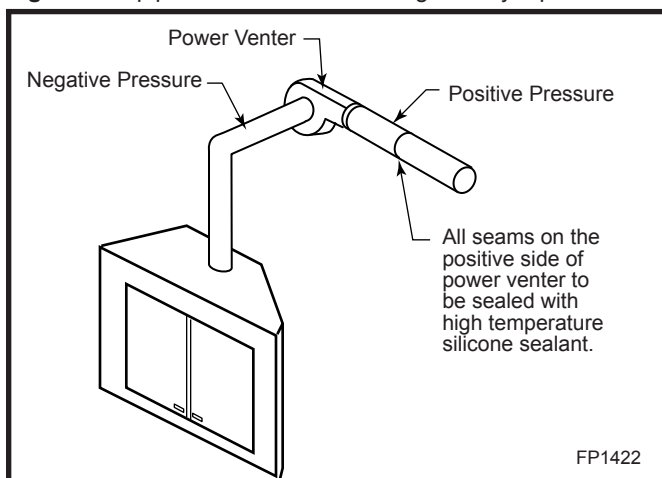

Fig. 7 Vent pipe connections and all joints on the outlet side of the power venter must be sealed with high temperature sealant.
6. Power Venter to vent pipe connections and all joints on the outlet side of the Power Venter must be sealed with high temperature silicone sealant or aluminum vent pipe tape to prevent flue gas leakage. (Fig. 7)